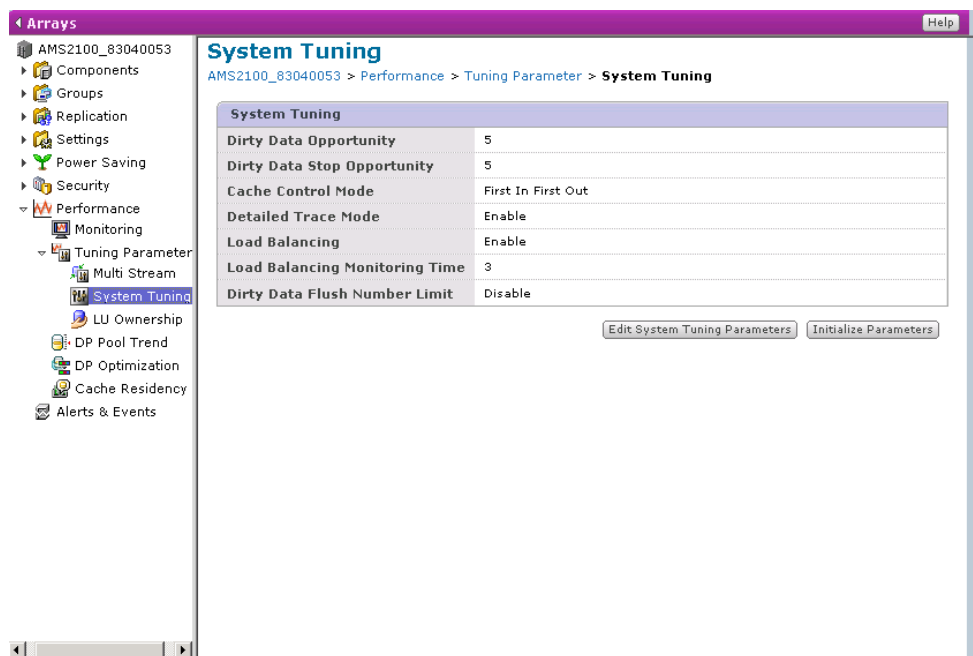

Figure 9-15: System Tuning window
- Click **System Tuning**. SNM2 displays the System Tuning window as shown in Figure 9-15. Note that the Dirty Data Flush Number Limit field in the System Tuning list has a setting of Disabled, the default value.